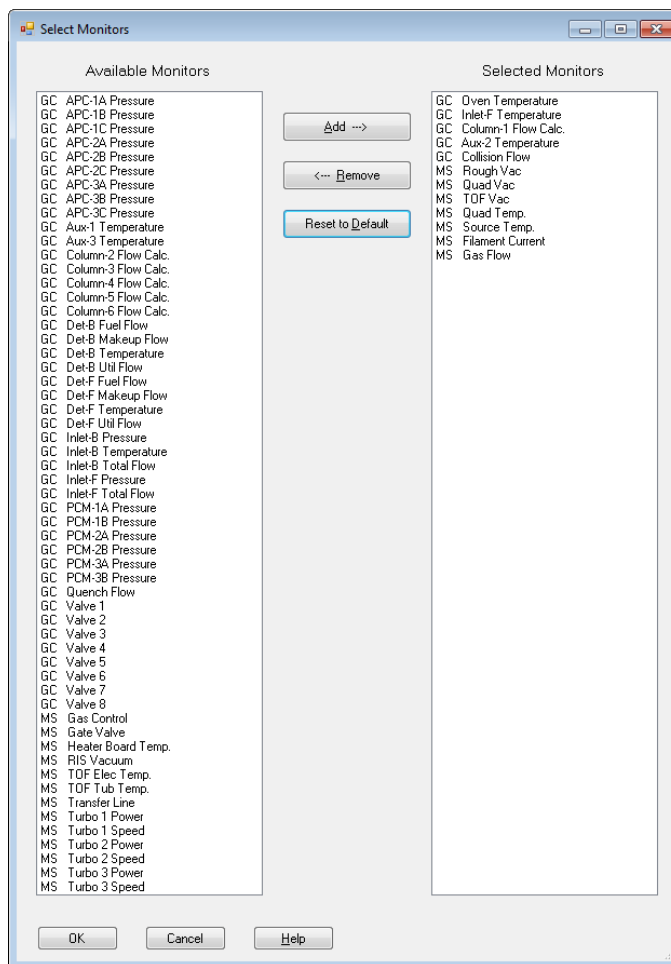

Figure 11 Select Monitors dialog box
- 2** Select **Method > Edit Monitors** to display the **Select Monitors** dialog box. See Figure 11.